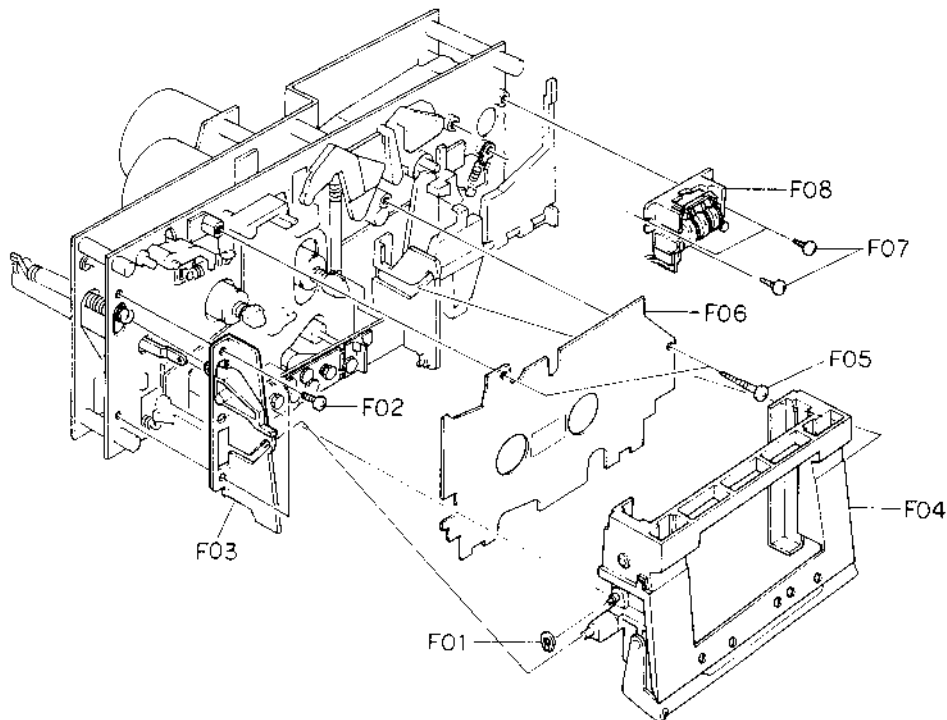

Fig. 2.6
Refer to Fig. 2.6.
- (1) Refer to Fig. 2.6. Remove Cassette Case Ass'y referring to item 2.20.
- (2) Remove F01, then disassemble F02 (Head Mount Base Ass'y).